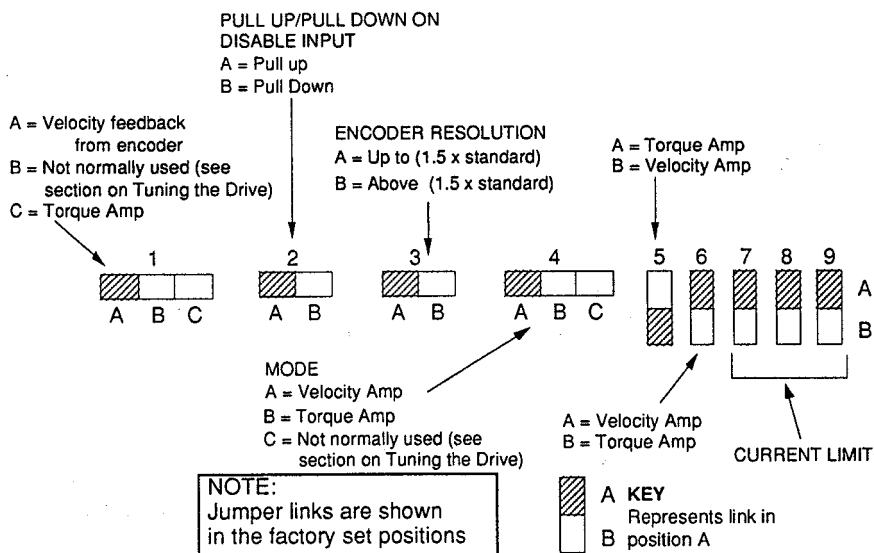

Figure 1-3. Jumper Link Setting Schematic
BL drive options are selected by means of nine jumper links as shown in Figure 1-3. A full description of the jumper link functions will be found under "Setting Up the Drive". See Table 3-8 for Current Limit link settings and Figure 3-7 for Pull Up/Pull Down on disable input.
For more information on jumper link settings see Figure 1-3 and Table 3-8.
2. Refer to Figure 1-3 and Table 3-8 and set the drive jumper links accordingly. Information on setting the jumper links will be found in the same section.